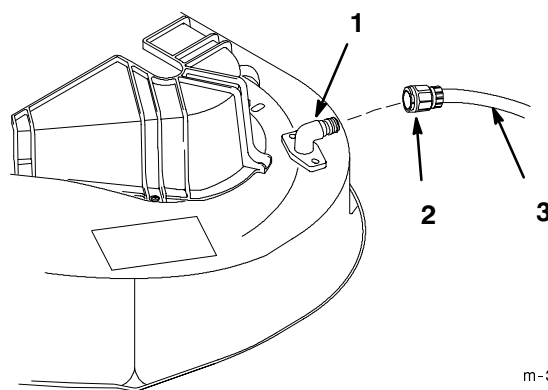

Figure 58
2. Attach hose coupling to the end of the mower washout fitting, turn water on high (Fig. 58).